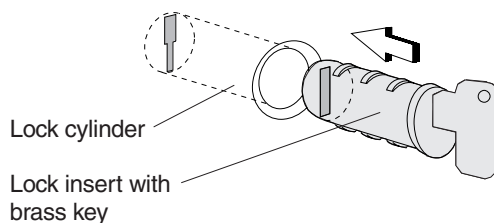

Figure 2-32. Lock insert and brass key
7. Hold the lock and brass key so that the key is in the same orientation as shown in Figure 2-32 on page 2-28.